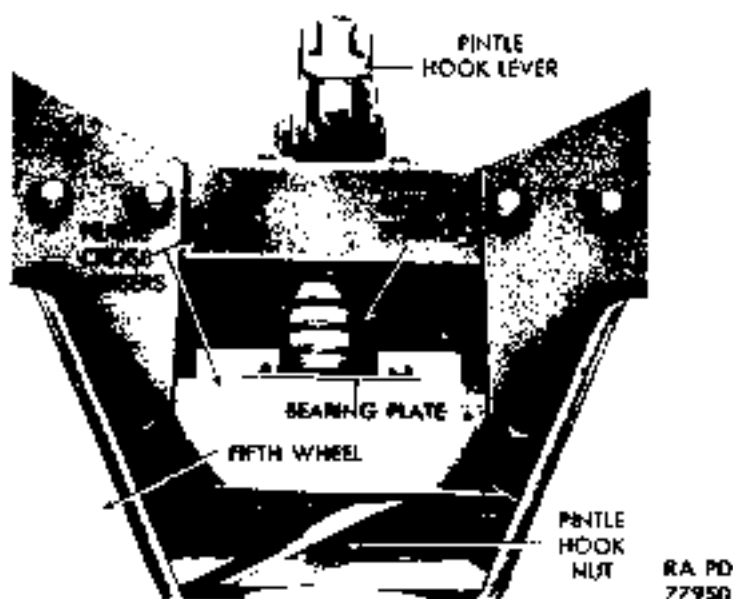

Figure 94 — Pintle Hook Installed
a. **Description** (fig. 94). The pintle hook is attached to two bearing plates mounted on two frame crossmembers at the rear of the truck. The top of the hook operates as a lever which can be pushed